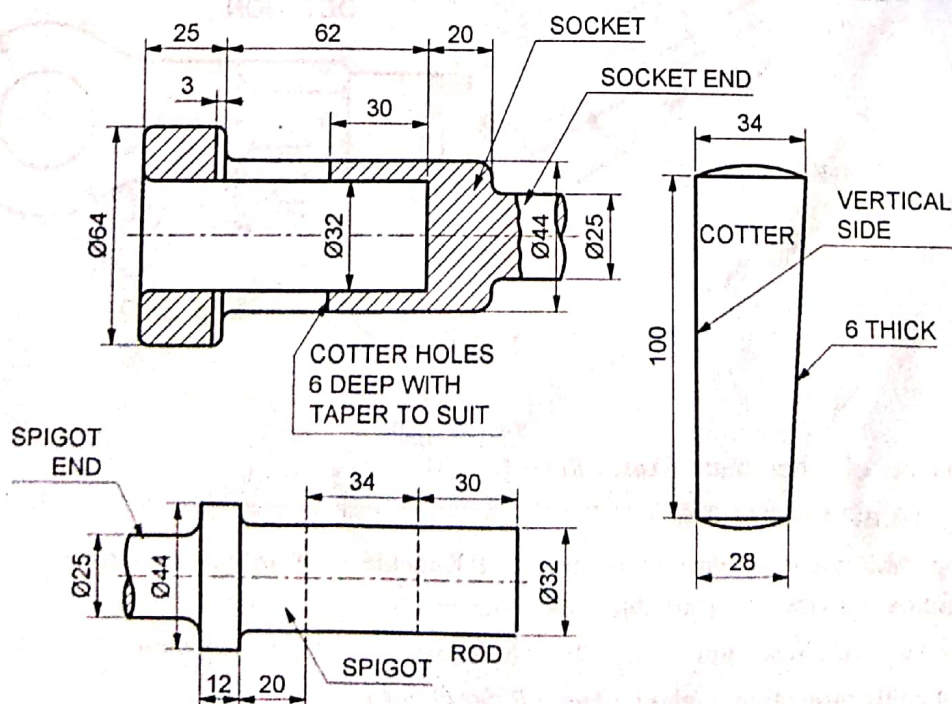

Fig. Q. 1
Q.1 Fig. Q. 1 shows the detail drawing of a spigot and socket joint. Assemble the various parts together and draw the following views.